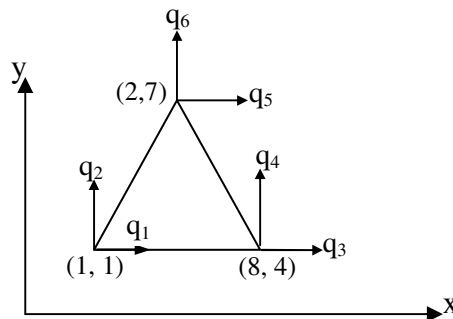

Fig.1
3. A bar structure is subjected to a point load  $P$  at its centre as shown in Fig.1. Analyse the structure using Finite element method and find a) Reactions b) Stress function c) Draw stress distribution along its axis.
1. Analyse the cantilever beam AB shown in Fig. 1 using Rayleigh- Ritz method of functional approximation. Determine maximum deflection @ B and comment on you results.
6. The nodal displacements of a triangular element shown in Fig.1 are  $q_1=0.001$ ,  $q_2= -0.004$ ;  $q_3=0.003$ ;  $q_4=0.002$ ;  $q_5=0.002$  and  $q_6=0.005$ .
2. A fixed beam is subjected to uniformly distributed load  $w/m$  as shown in Fig.1. Analyse the beam using Rayleigh – Ritz method of functional approximation. Determine maximum deflection and maximum bending moment in the beam. Comment on results.